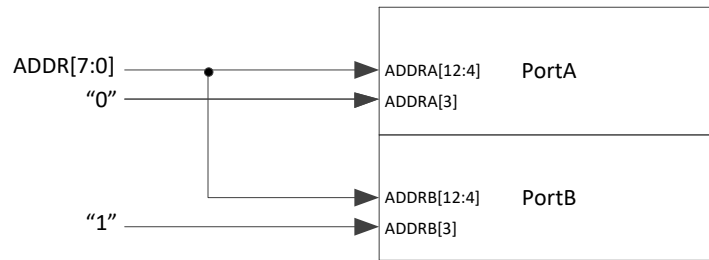

Figure 2-6 Address Line Configuration for TW and RBW Modes in SPRAM Mode
5. Both Port A and Port B address input ports must be connected to the address input simultaneously; ADDRA[3] and ADDR[3] must be connected to 0 or 1 respectively (in opposite), as shown in Figure 2-6: